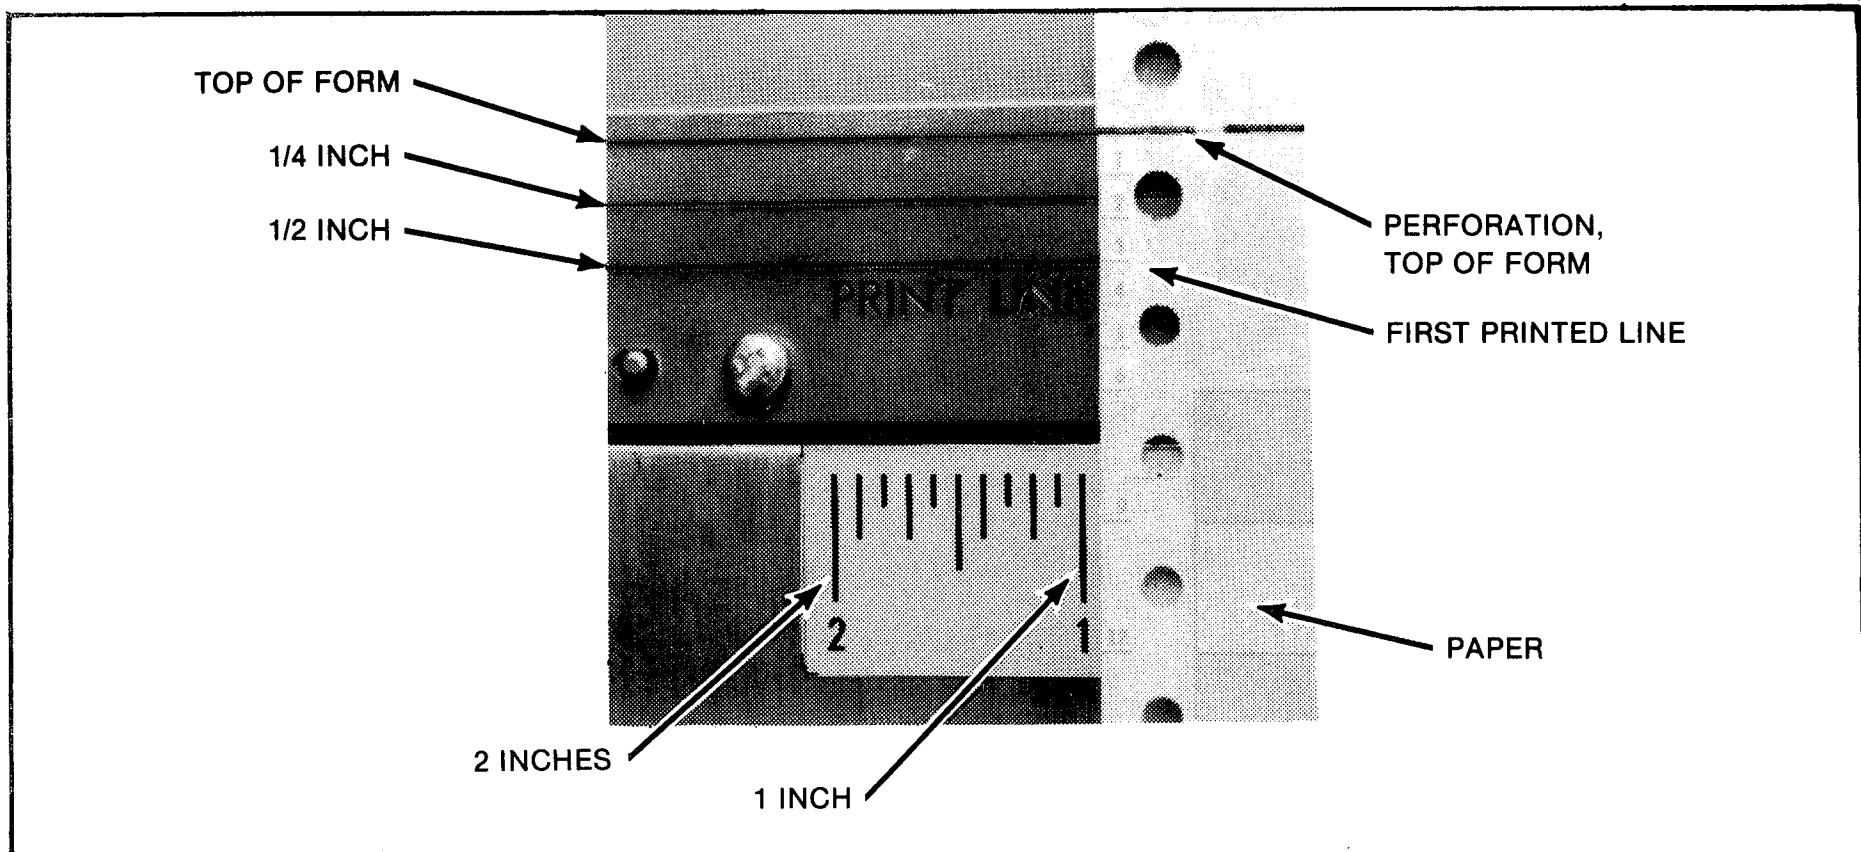

Figure 4. Paper Positioning
- a. Paper is normally installed so that the first line of print is either 1/4 or 1/2 inch from perforation (top-of-form). (Figure 4 shows the paper installed with the first line 1/2 inch from top-of-form.)
- b. Paper may be installed so that the first print column may be indented up to two inches from the paper's edge. (Figure 4 shows the paper installed with the first print column indented approximately one inch.)